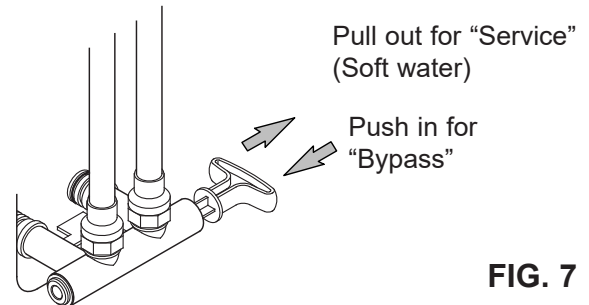
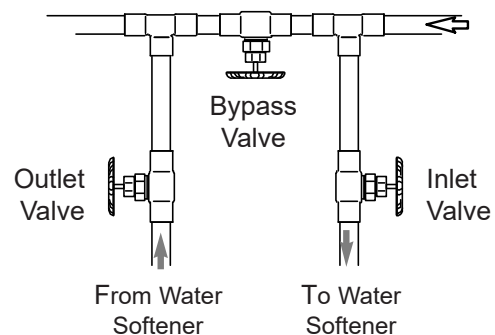

FIG. 7
FIG. 8
Always install either a single bypass valve (provided), as shown in Figure 7, or, if desired, parts for a 3 valve bypass system (not included) can be purchased and assembled, as shown in Figure 8. Bypass valves allow you to turn off water to the softener for maintenance if needed, but still have water in house pipes.
CAUTION: The house cold water pipe (metal only) is often used as a ground for the house electrical system. The 3-valve bypass type of installation, shown in Figure 8, will maintain ground continuity. If you use a plastic bypass valve at the unit, continuity is broken. To restore the ground, do the following:
2. Place the single bypass valve or 3 valve bypass in "bypass" position. See Figures 7 & 8.